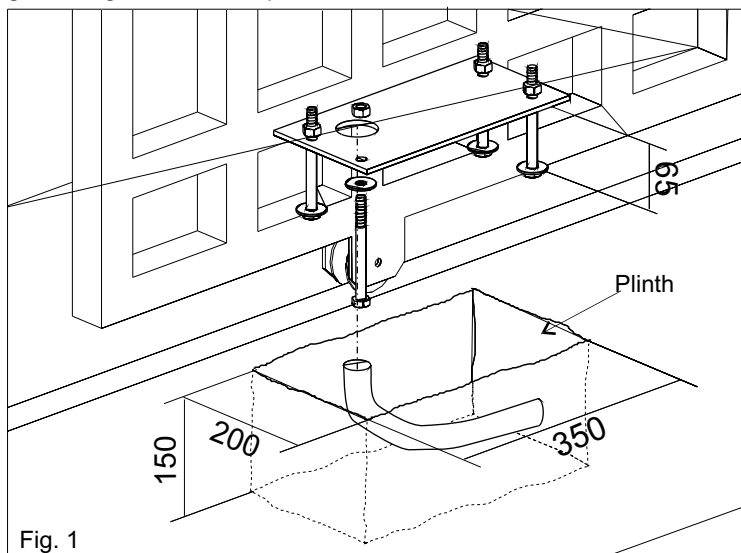

Fig. 1
2.1. Have a mounting plate manufactured to the dimensions shown in Fig. 1. The plate will require to have concrete holding into which the foundation plate and the anchor bolts will be walled up.